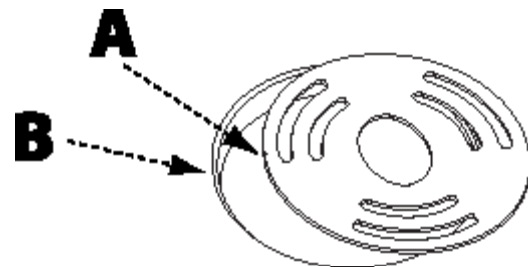

FIGURE 8
2. Slip the table insert over the spindle. Ensure the table insert is properly seated by aligning the small notch in the table insert (A) with the corresponding small tab (B) in the table as shown in Figure 8.